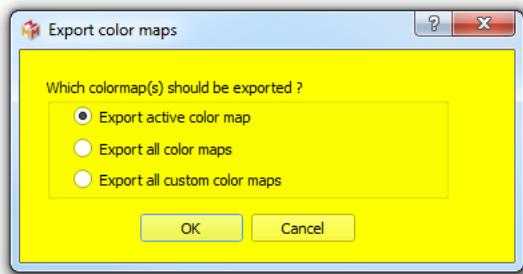

Figure 11.3: Export color maps dialog.
- 4: **Color map controls:** Four buttons are available. a:reinitialize color map (only possible for the 2 first predefined color maps). b: export color map(s). When clicked, the export color map(s) dialog shows up (see Fig. 11.3), in which you may define more precisely the color map(s) that should be exported. c: change active color map name (can be only done on custom color maps). d: delete active color map (only custom color maps can be deleted).